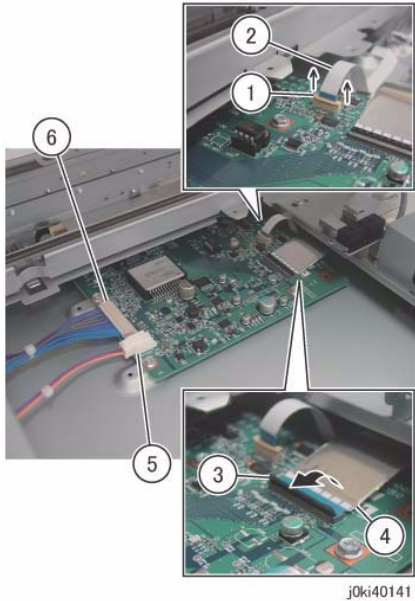

Figure 4 Disconnect the connectors
10. Disconnect the connectors that are connected to the IIT PWB. (Figure 4)